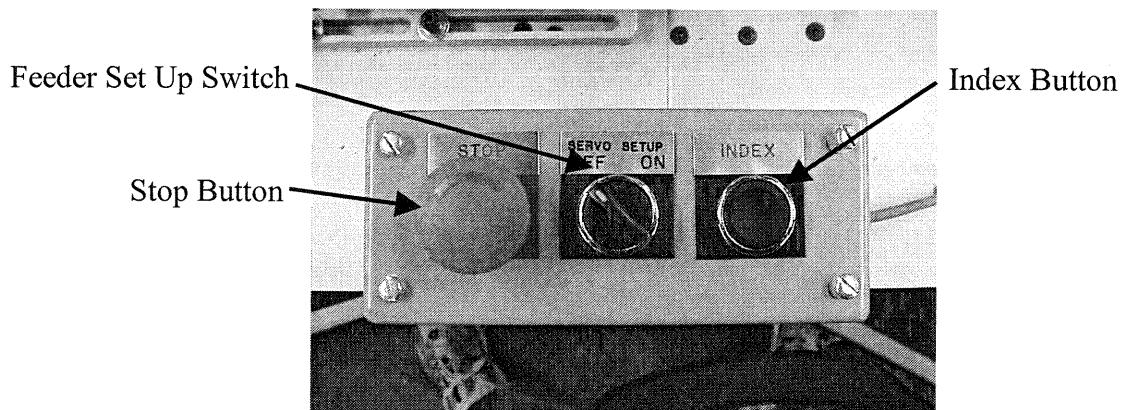

Figure 6.0
4.2.2 Feeder Control Box Description (see Figure 6.0)